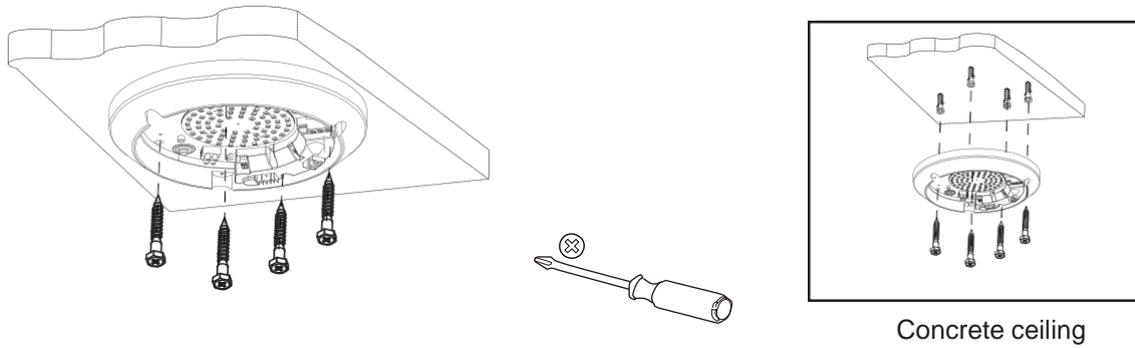

Fig.6
- Step6 Fix the base of the product on the selected place with the screws (as Fig.6)